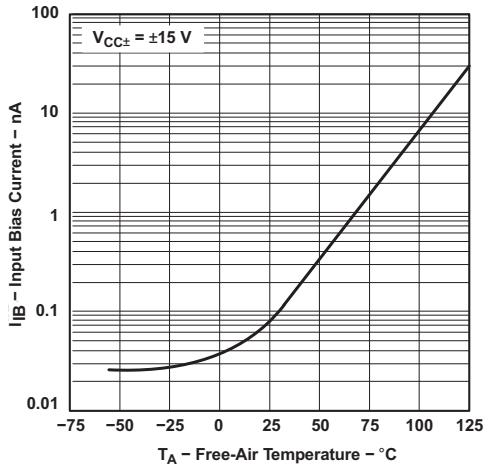

Figure 1. Input Bias Current vs Free-Air Temperature
- (1) All characteristics are measured under open-loop conditions with zero common-mode voltage, unless otherwise specified.
- (2)  $T_A = -40^\circ\text{C}$  to  $85^\circ\text{C}$ .
- (3) Input bias currents of an FET-input operational amplifier are normal junction reverse currents, which are temperature sensitive, as shown in Figure 1. Pulse techniques must be used that maintain the junction temperature as close to the ambient temperature as possible.
- Input bias currents of an FET-input operational amplifier are normal junction reverse currents, which are temperature sensitive, as shown in Figure 1. Pulse techniques that maintain the junction temperature as close to the ambient temperature as possible must be used.
- (1) Input bias currents of an FET-input operational amplifier are normal junction reverse currents, which are temperature sensitive, as shown in Figure 1. Pulse techniques that maintain the junction temperature as close to the ambient temperature as possible must be used.
- (2) All characteristics are measured under open-loop conditions with zero common-mode voltage, unless otherwise specified. Full range is  $T_A = -55^\circ\text{C}$  to  $+125^\circ\text{C}$ .